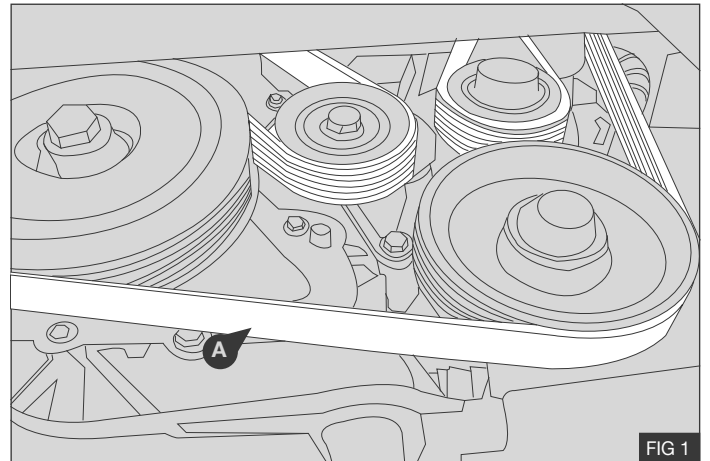

FIG 1
1. Take off and discard the original drive belt **(A)** - Fig 1. Please take note how the original belt is configured